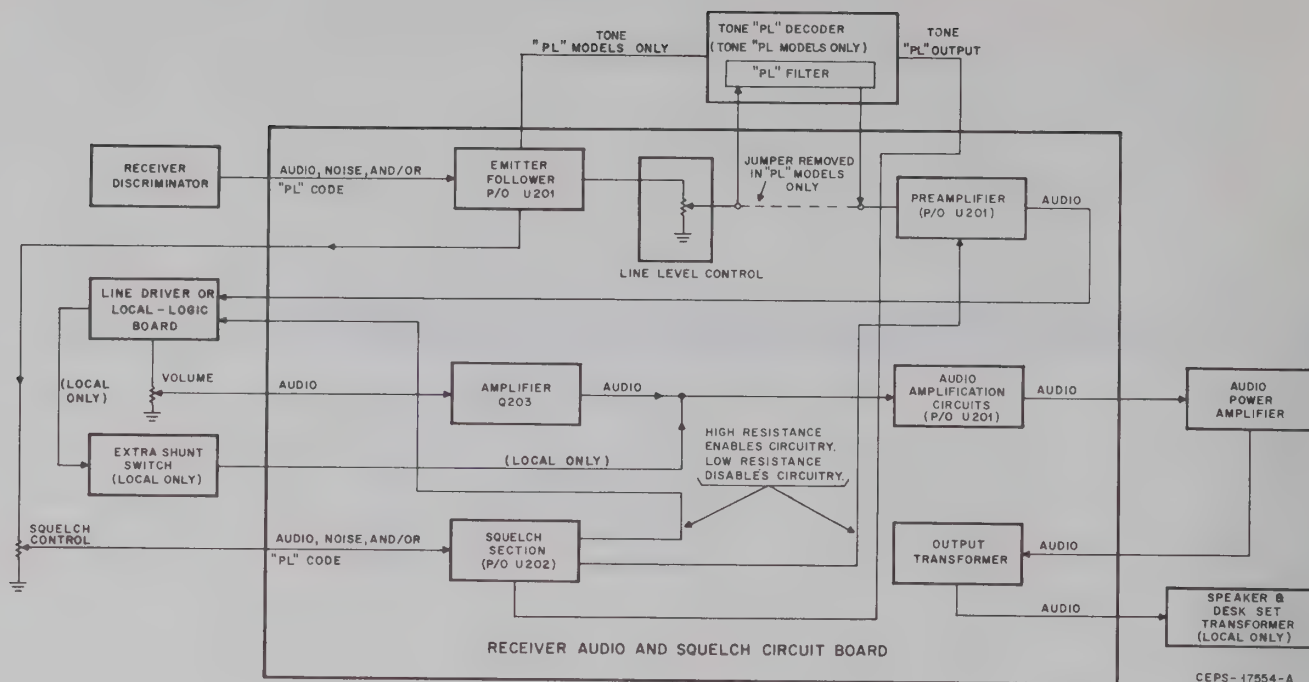

Figure 1.
2.1.1 The audio signal from the receiver discriminator is routed to the emitter follower (refer to Figure 1.). The emitter follower output is coupled to the SQUELCH control mounted on the receiver chassis or local front panel and also to the line level potentiometer mounted on the audio & squelch board. The signal